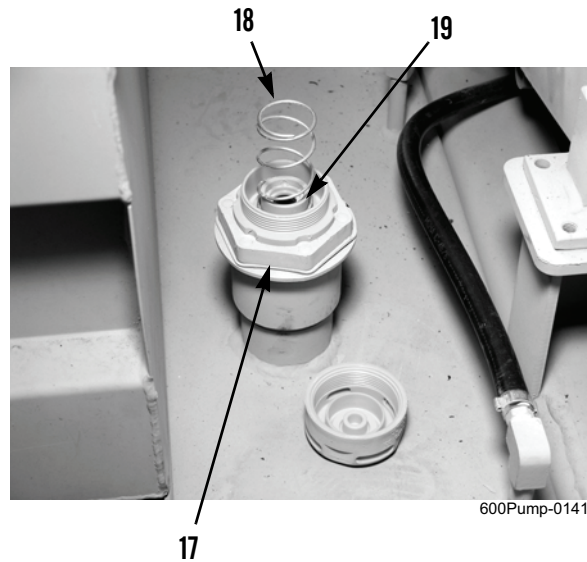

Figure 5. Vent Assembly - Disassembled.
7. Remove spring (Figure 5, Item 18) and vent insert (Figure 5, Item 19) from vent assembly (Figure 5, Item 17).